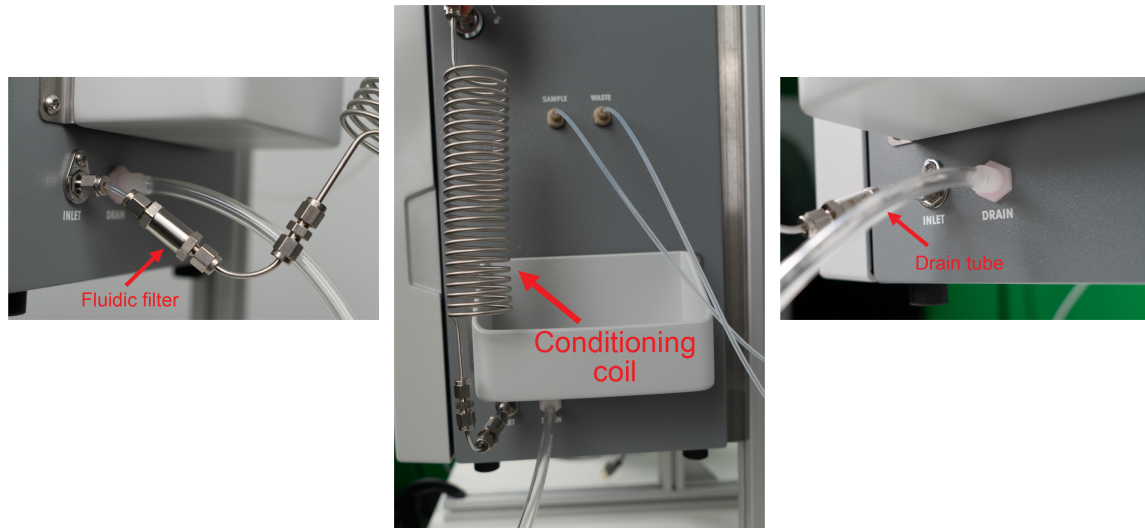

Figure 9: Fluid filter and inlet connection, Conditioning coil, and Drain connection on the bottom ports
- There are 4 different Fluidics connections on the side of the analyzer (Figure 9). It is recommended to use 1/8" (3,175 mm) tubing for all the inlet connections.
6. If clean compressed air (e.g. oil free dried air, inert gases, or nitrogen gas) is accessible on site, purge the instrument to remove residual water through inlet (see Figure 9) and sample connection (see Figure 11).